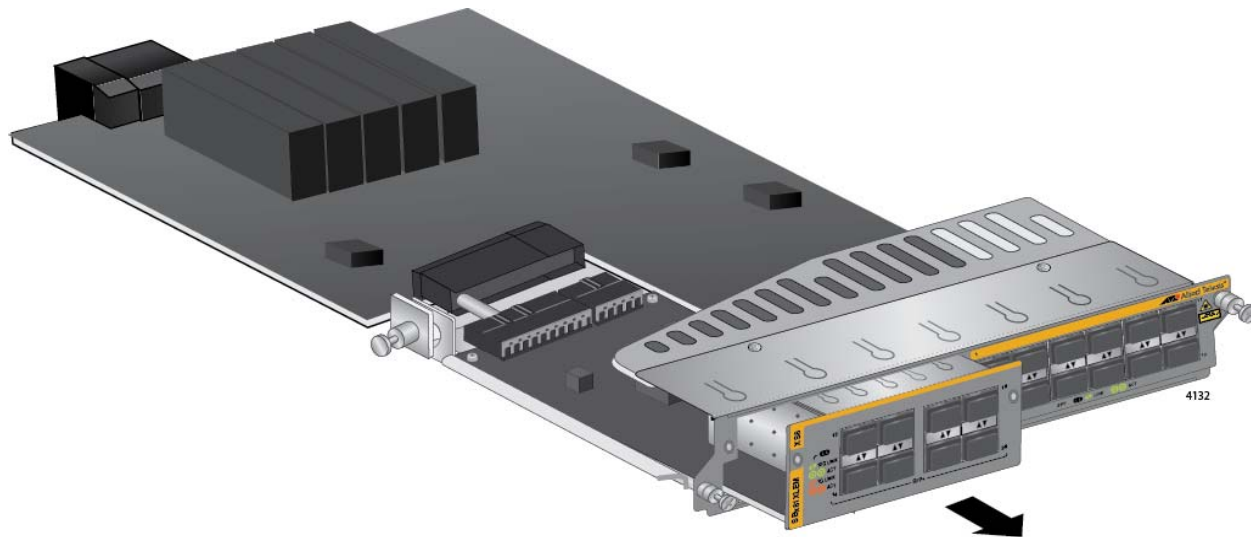

Figure 181. Sliding the Expansion Module from the AT-SBx81XLEM Line Card
6. Slide the expansion module from the line card. Refer to Figure 181 on page 292.